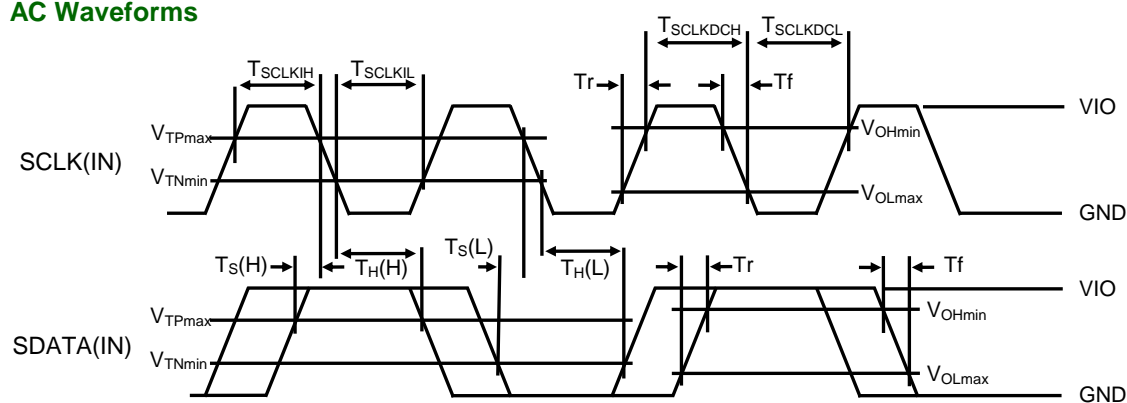

Figure 6. T_{SCLKDH} , $T_{SCLKDCL}$, T_{SCLKIH} , T_{SCLKIL} , T_s , T_H
- Figure 6, 7, 8, 9 and Table8 show the important parameters for SCLK and SDATA required for proper operations of the Toshiba MIPI RFFE slave interface.